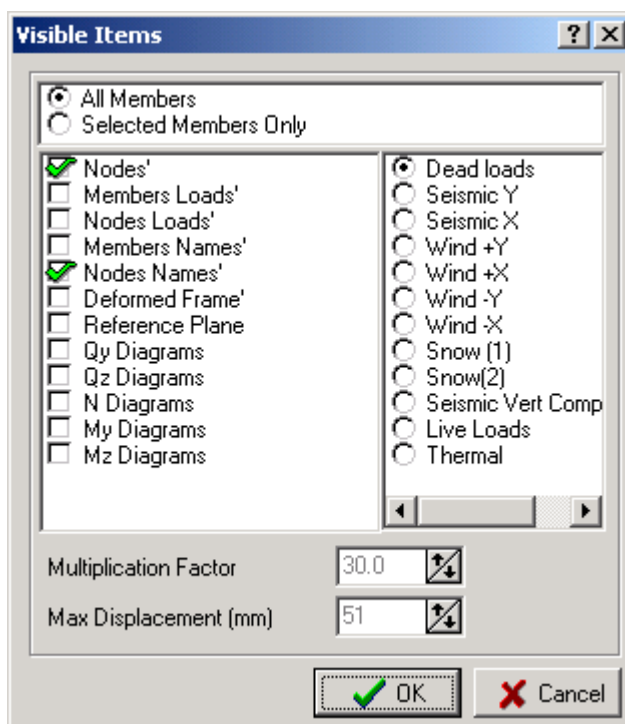

Figure 46 "VISIBLE ITEMS" dialogue box
1. Choose Parameters > Options> Visible Items command. The dialogue box shown in figure 46 will appear.